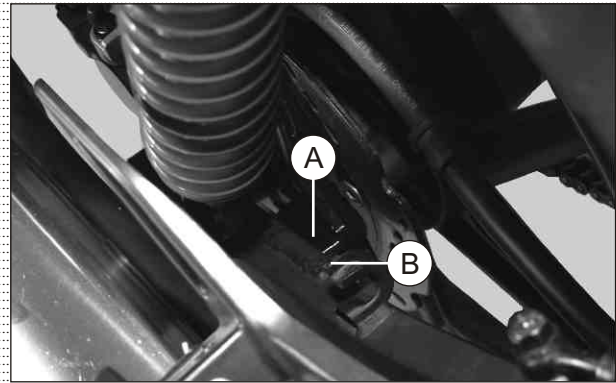

Fig. 6.89
- Make sure that the slot (A) in the bracket complete caliper assembly fits over the stopper (B) on the swing arm assembly. (Fig. 6.89)